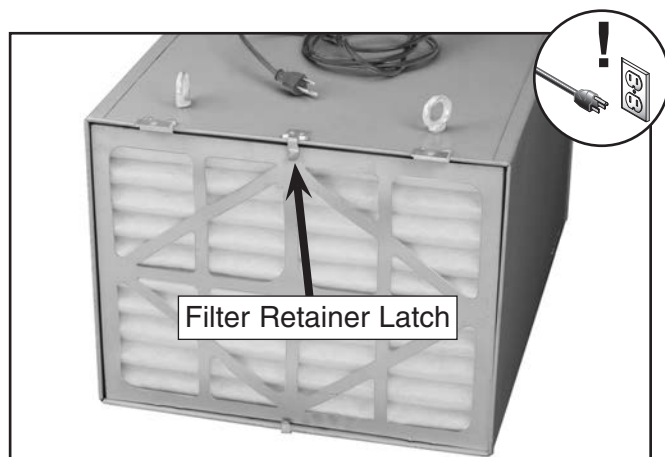

Figure 20. 5-Micron primary filter.
2. Open filter retainer latch and remove primary filter (see **Figure 20**).